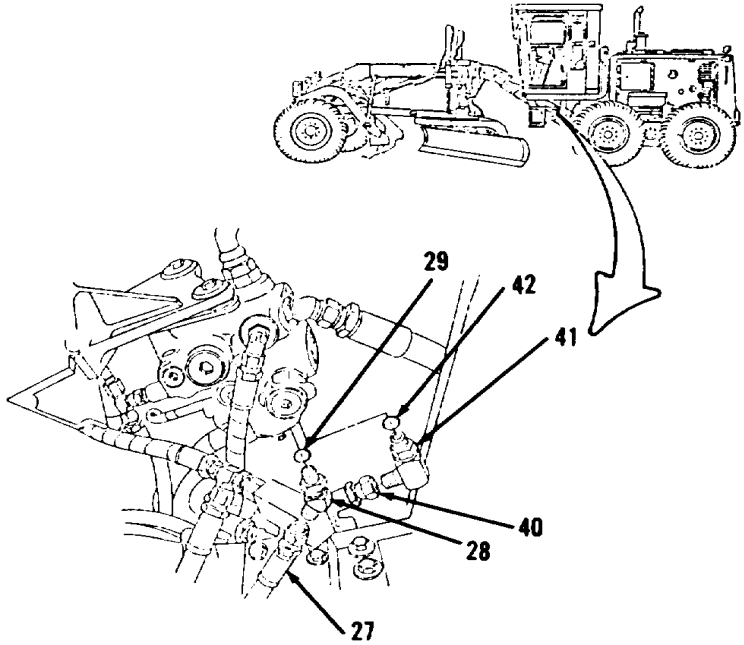

Figure 10-162.
- 22. Remove hose assembly (27), elbow (28) and preformed packing (29, Figure 10-162) from steering control valve. Discard preformed packing (29).
- 24. Remove tee (32), connector (33) and preformed packing (34). Discard preformed packing (34).
- 25. Remove nut (35), washer (36), support (37), clip (38) and bolt (39).
- 26. Remove hose assembly (40), elbow (41) and preformed packing (42, Figure 10-162) from steering control valve. Discard preformed packing (42).